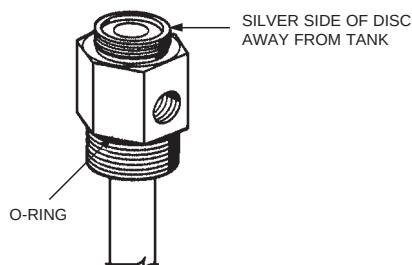

FIGURE 8-4
12. Examine threads on each tank adaptor and tank collar for nicks, burrs, or cross-threading. Clean and coat o-ring with a good grade of extreme temperature grease. See Figure 8-4. Remove 1/4 in. vent plug and clean and inspect for free movement and corrosion (if necessary, replace Vent Plug (Part No. 74247)). Reinstall vent plug. Make certain bursting disc is in place and silver side is away from tank. Clean seating surface and return adaptor/tube assembly to each tank. Tighten securely.